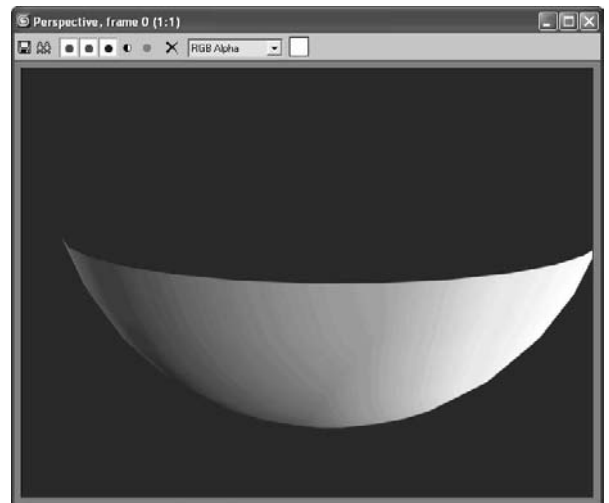

Figure 7.6
**2-Sided** This setting enables you to render both sides of a single surface. By default, only one side of a surface will render, and that is typically all you need. Sometimes, however, when you penetrate through a surface, you will have to see the other side. In this image (Figure 7.6), a hemisphere is rendered without 2-Sided turned on.